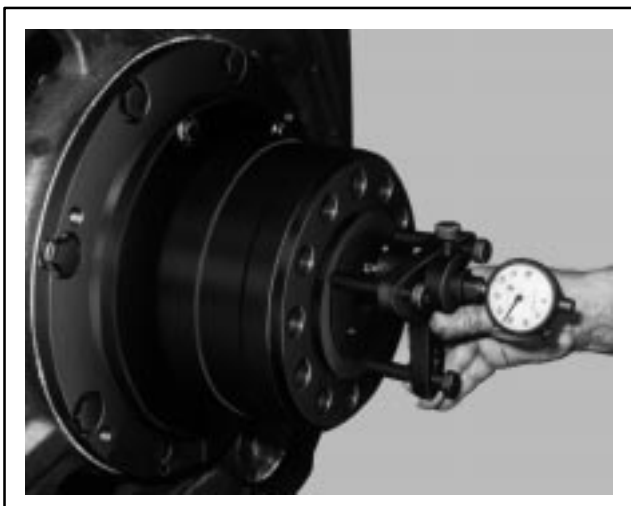

FIG. 41. METHOD OF USING ADVANCE GAUGE. E-5975A.
3. Trial mount the cold hub onto the shaft. Measure and record the position of the hub with respect to the end of the shaft. Take measurements with a micrometer advance gauge similar to that shown in Fig. 41. Zero the gauge.
6. Check the hot or shrunk-on position of the hub on the shaft. The advance from cold to hot position along the axis of the shaft must be held within the limits indicated. Check the actual advance with an indicator gauge, located in the same relative position as used to measure the cold position in Step 3, Fig. 41.